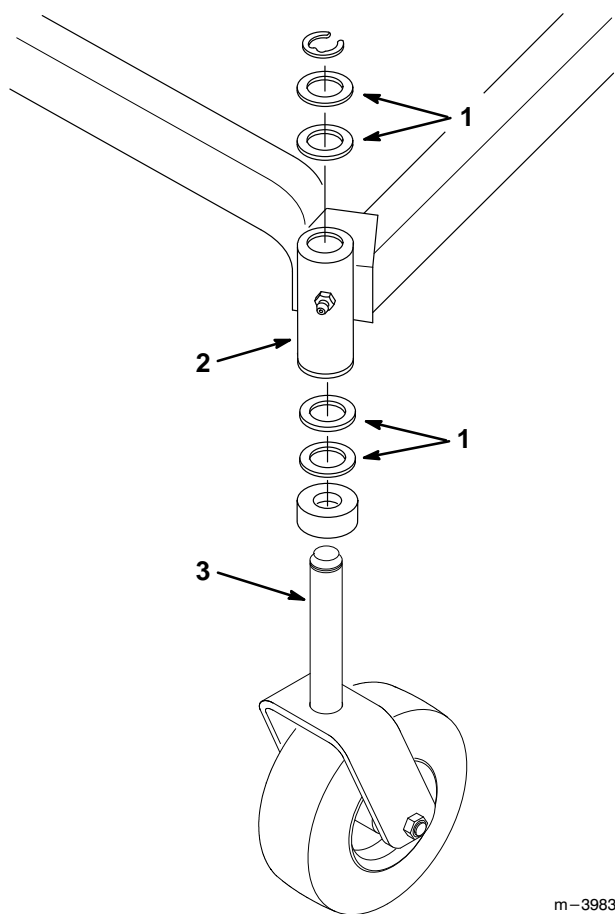

Figure 18
4. To change the front-to-rear pitch, move an equal number of thrust washers on both castor wheel forks. Move the thrust washers from the top of the carrier frame mounting tube to the bottom to raise the front of the mower. Move the thrust washers from the bottom of the mounting tube to the top to lower the front of the mower. (Fig. 18).
4. To change the side-to-side leveling, move the thrust washers on one castor wheel fork only. Move the thrust washers from the top of the carrier frame mounting tube to the bottom to raise the corresponding side of the mower. Move the thrust washers from the bottom of the mounting tube to the top to lower the corresponding side of the mower. (Fig. 18).